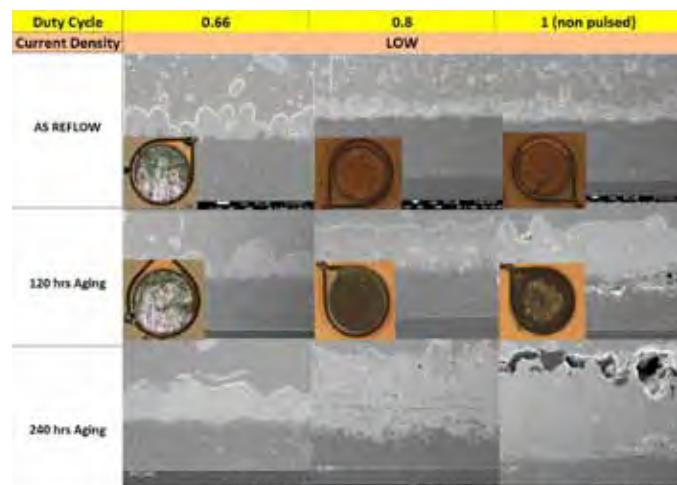

Figure 5:
Duty cycle (DC) in pulse plating is defined as the pulse time on divided by total time (Ton+Toff). The higher the duty cycle the more current on time, until at the extreme Toff=0 and the process becomes direct current. The optimized frequency (‘medium’ from previous section) at low current density and a duty cycle of 0.66 was compared to the copper processes plated at DC= 0.8 DC=∞ (direct current) (**Figure 5**).